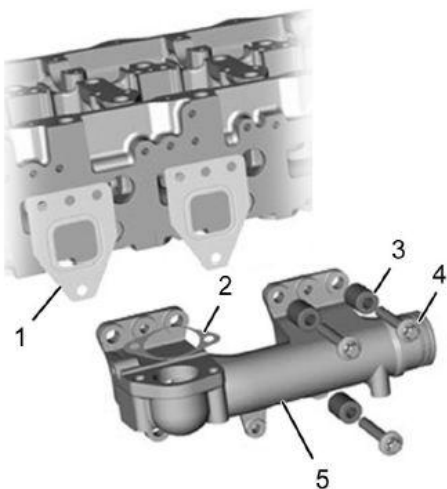

Figure 8: Rear Exhaust Manifold
18. Position two new exhaust manifold gaskets (**Figure 8**, Item 1) and install rear exhaust manifold (**Figure 8**, Item 5) assembly.
19. Install six new Hex bolts and six new sleeve spacers included in kit 2512878C91 (**Figure 8**, Items 4 and 3)